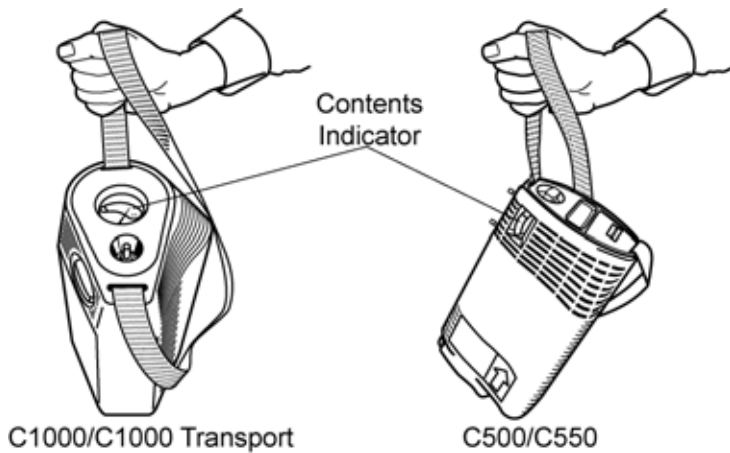

Figure 14: Checking Contents Indicator
9. Check the liquid oxygen contents indicator (Figure 14) to make sure the Portable unit is filled to the desired level. The amount of liquid contained in the Portable is measured by an internal scale that is built into the unit.